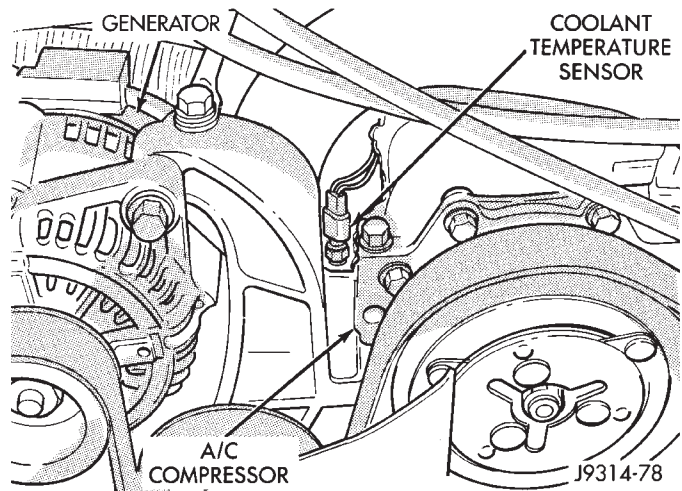

Fig. 53 Engine Coolant Temperature Sensor—5.2L Engines
(1) Disconnect wire harness connector from coolant temperature sensor (Fig. 53).